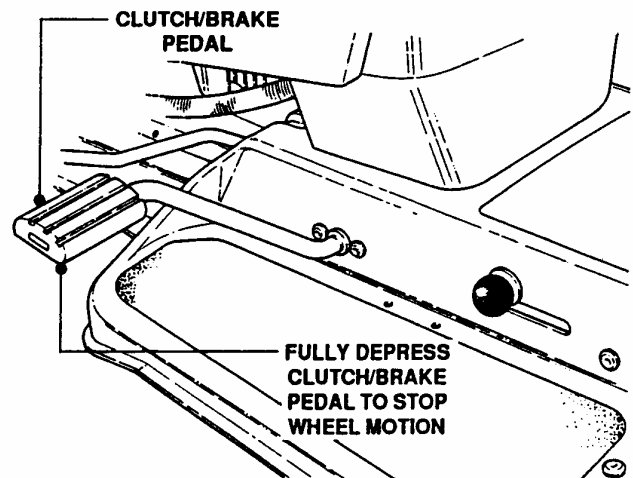

FIGURE 10
Fully depress clutch/brake pedal and/or move speed control handle to neutral (N) to stop wheel drive. See Figure 10.
Fully depress clutch/brake pedal to stop wheel drive. See Figure 10.